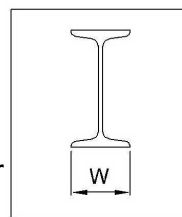

FIGURE 1
- ① Measure I-beam W-dimension.(FIGURE 1)